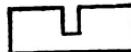

FIG. 21.
*Holdfasts.*—Get a piece of board about 2 feet long, 9 inches wide, and 1 inch thick, and cut a notch in it, as shown in Fig. 21, about 5 inches deep and 3 inches wide. Wedge the board edgewise into this notch: it will then stand edgewise on a common table, and it can be planed on the upper edge if the far end abut against a wall or any other firm support.